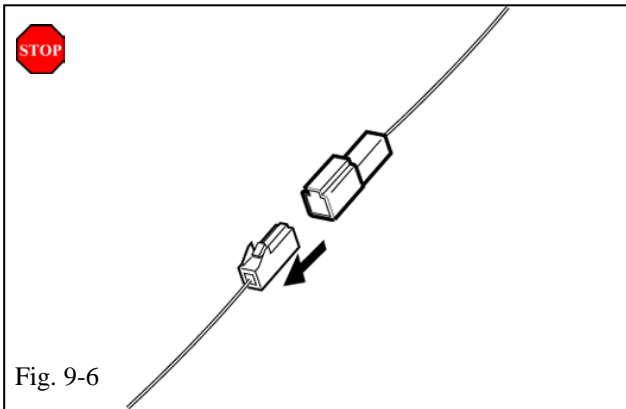

Fig. 9-6
- Disconnect the V4 Harness's White 1P Connectors in the Passenger's Side Cowl Area. (Fig. 9-6)